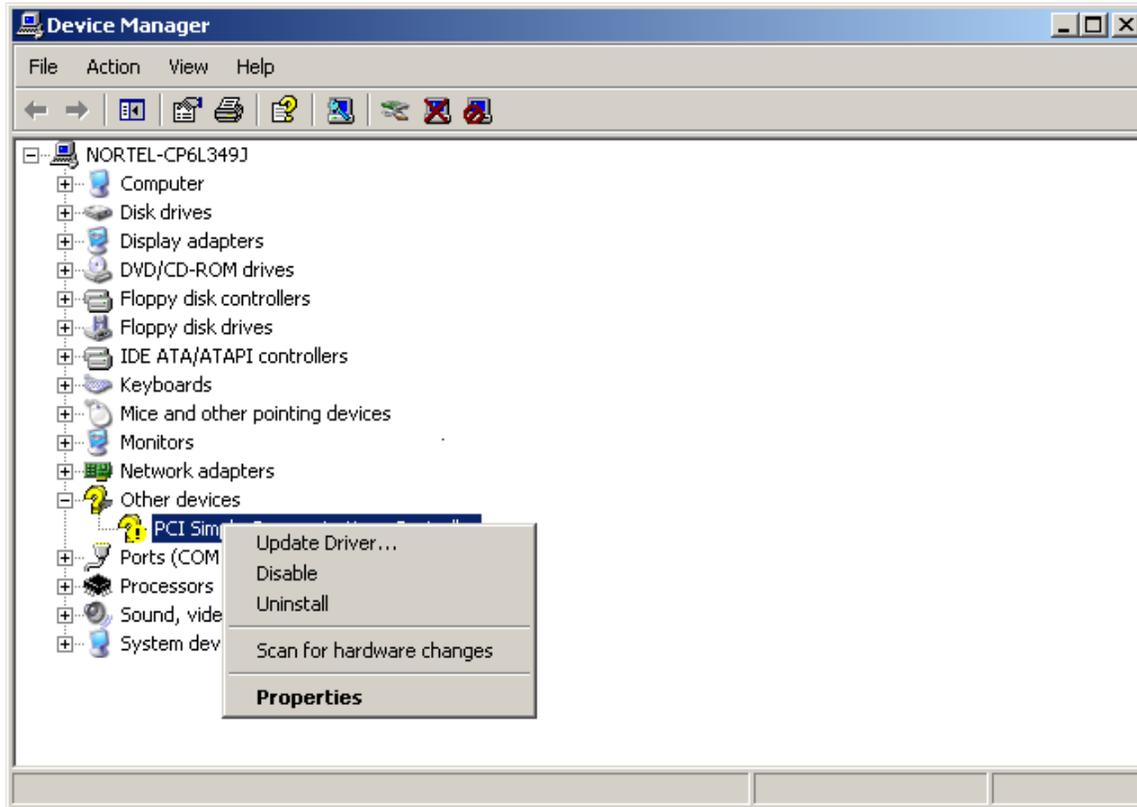

FIGURE 185. Properties of the PCI Simple Communications Controller
8. Click on the right mouse button to make the Properties window appear as shown in Figure 185.